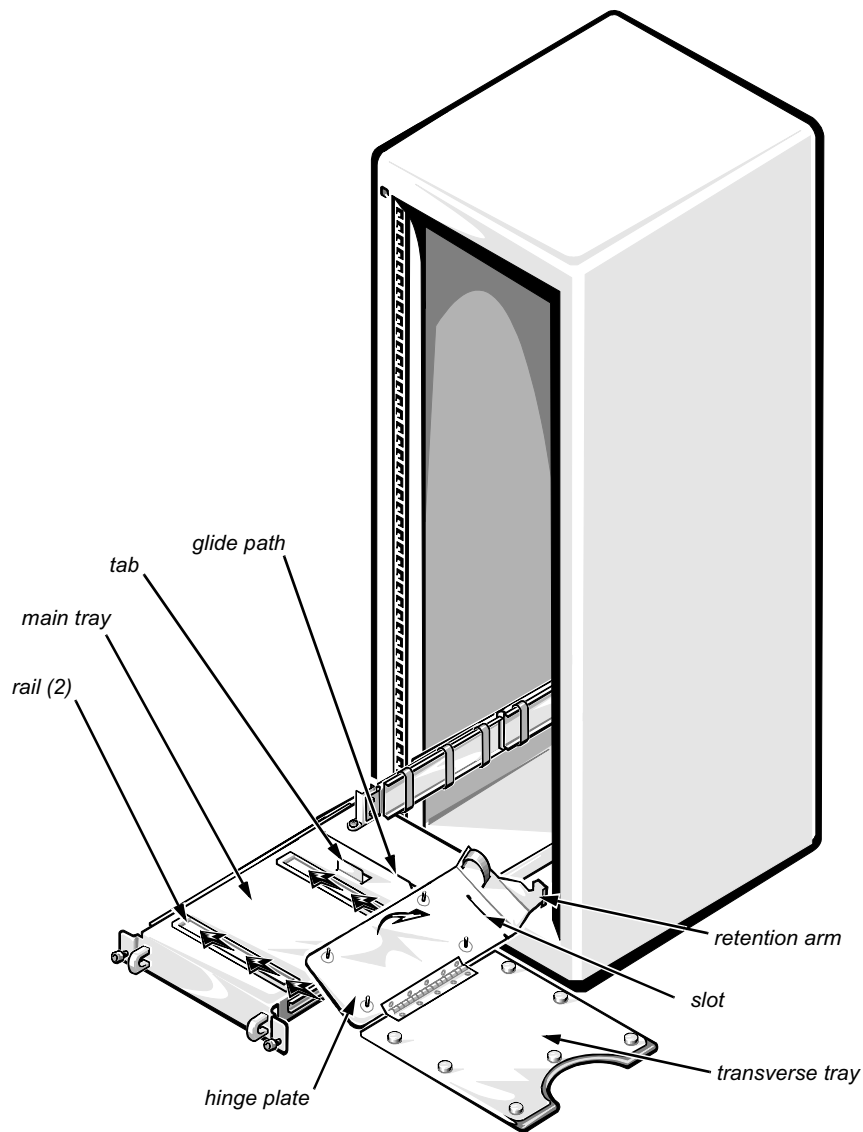

Figure 12. Installing the Transverse Tray
2. While holding the transverse tray adjacent to the main tray, align the slides on the underside of the transverse tray with the rails on the top of the main tray (see Figure 12).
3. Install the transverse tray onto the main tray (see Figure 12).
5. Lower the hinge plate to a horizontal position, making sure that the tab on the main tray engages the slot in the hinge plate (see Figure 12).